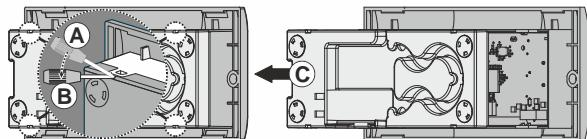
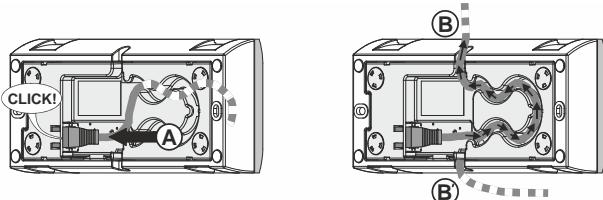
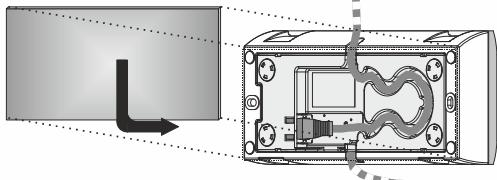

Fig. 3. Removing cover
Fig. 7. Plugging cable and looping through guide
Fig. 9. Attaching metal plate
1. Remove the cover (see Fig. 3).
5. Plug the connection cable into the RJ45 socket and loop through the cable guide for strain relief (see Fig. 7). The cable can exit the unit either through the upper (B) or lower (B') outlet.
In the case of the handheld option, proceed as described in Fig. 3 to Fig. 7). Finally, attach the metal plate (see Fig. 9), which completely covers the rear of the device.
3. Finally, plug the connection cable into the RJ45 socket and loop it through the cable guide and cable outlet (see Fig. 7).
4. Finally, plug the connection cable into the RJ45 socket, loop it through the cable guide and cable outlet (see Fig. 7), and then click the XL2000HMI-A into the sub-base.